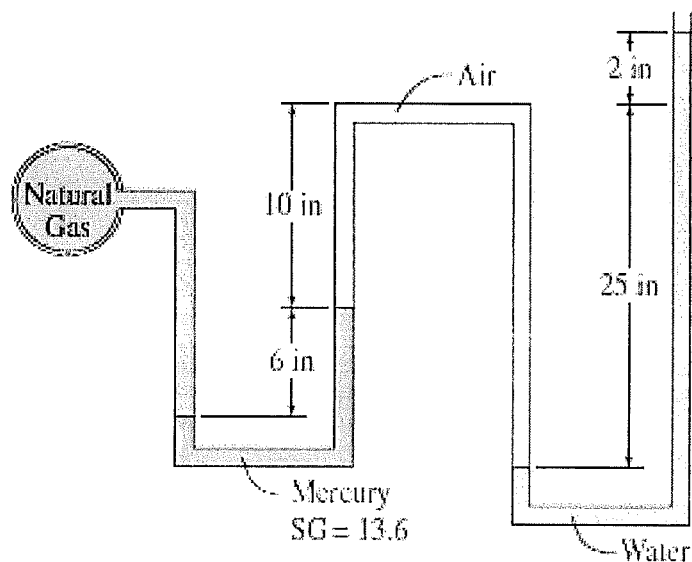

Figure 1 - A manometer used to measure the pressure in a natural gas pipeline
- [c] The pressure in a natural gas pipeline is measured by the manometer shown in Figure 1 with one of the arms open to the atmosphere where the local atmospheric pressure is 98 kPa. Determine the absolute pressure in the pipeline.